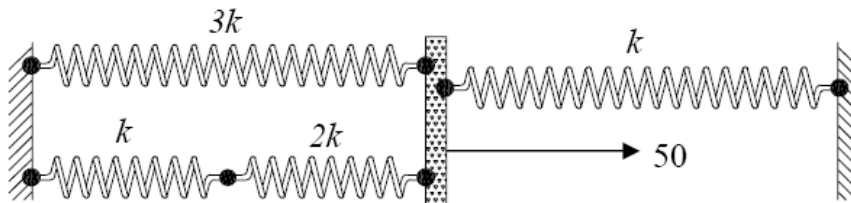

Figure P1.2
2. Number the elements and nodes for the spring system shown in **Figure P1.2**. Compute the global stiffness and force vector, **(b)** Partition the system and solve for the nodal displacements and **(c)** Compute the reaction forces. Take $k = 5 \text{ kN/m}$ and force in N.